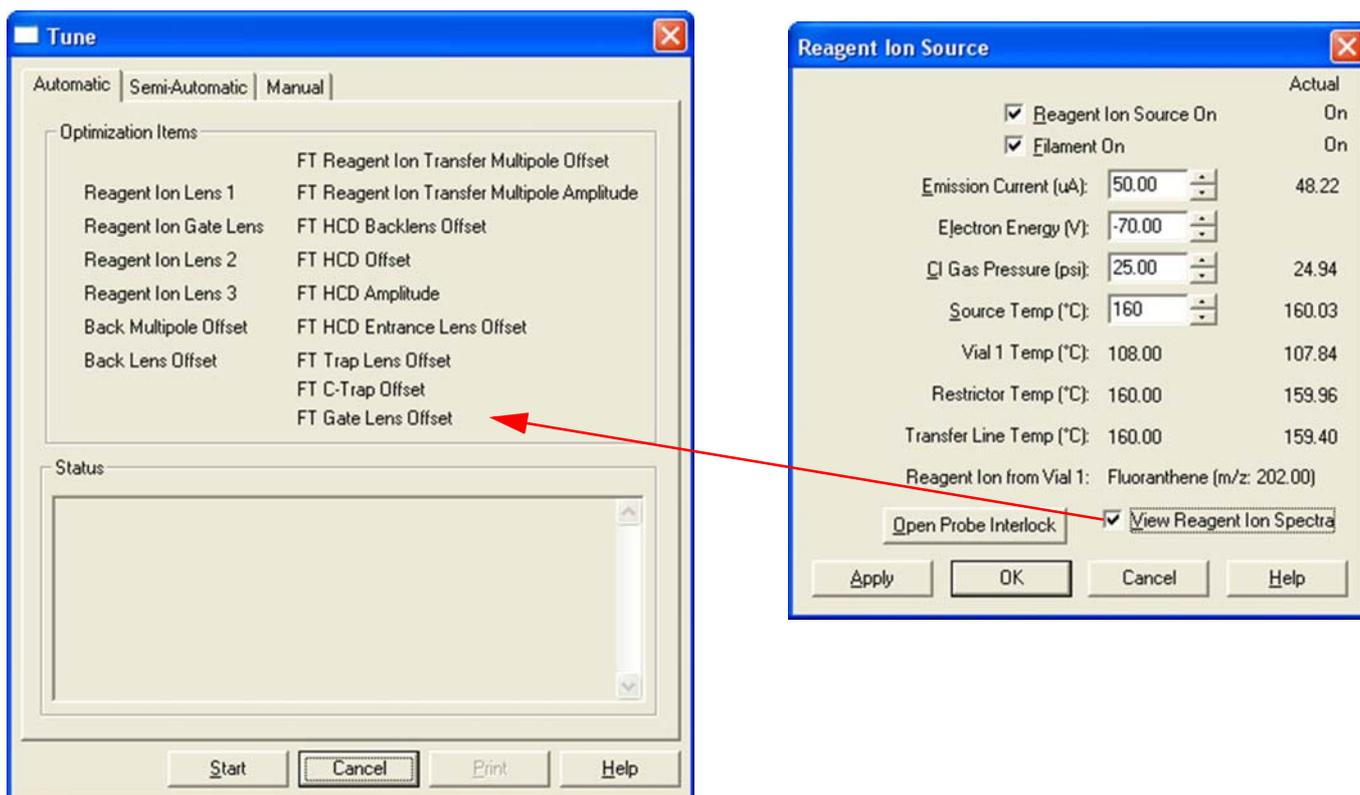

Figure 8-11. Activating Reagent Ion Source tuning
3. In the Reagent Ion Source dialog box, select the View Reagent Ion Spectra check box. (See Figure 8-11.)